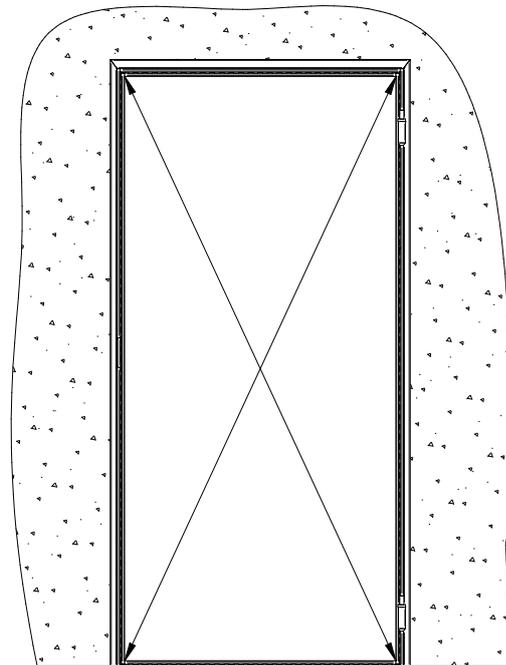

Figure 5. Internal diagonals of the frame
- 2.6.5 Measure the internal diagonals of the frame (Figure 5). The diagonal measurements may not differ by more than 1 mm.